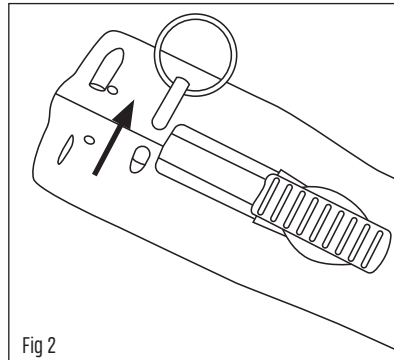

Fig 2
2. SAFETY PIN REMOVAL - Remove the Safety Pin before using the LifeLite™. The Safety Pin has been installed as safety against accidental firing. The Safety Pin should remain in place when storing or transporting the LifeLite™ and not when staging for defensive use. (Fig 2)